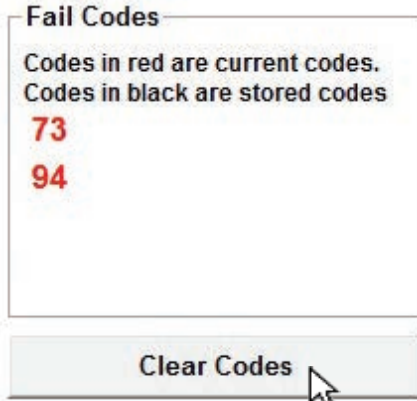

Figure 1
1. To clear trouble codes, click the “Clear Codes” button in the “Fail Codes” section. **Reference Figure 1.**